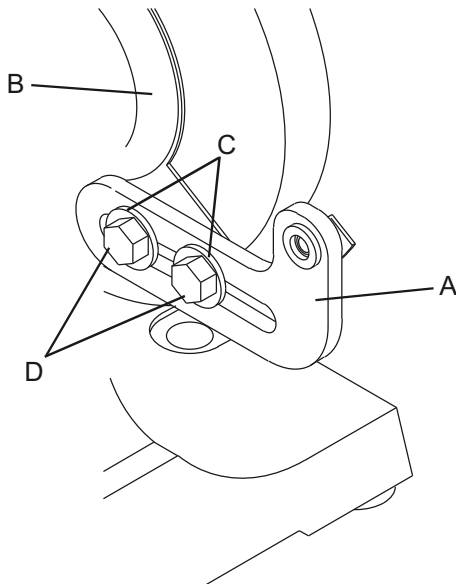

Figure 3 - Assemble Tool Rest Supports
Refer to Figures 3 and 4.
1. Assemble the Tool Rest Supports (A) to the inside surface of the Wheel Covers (B) with the flat washers (C) and hex head screws (D) as shown. See Figure 3.